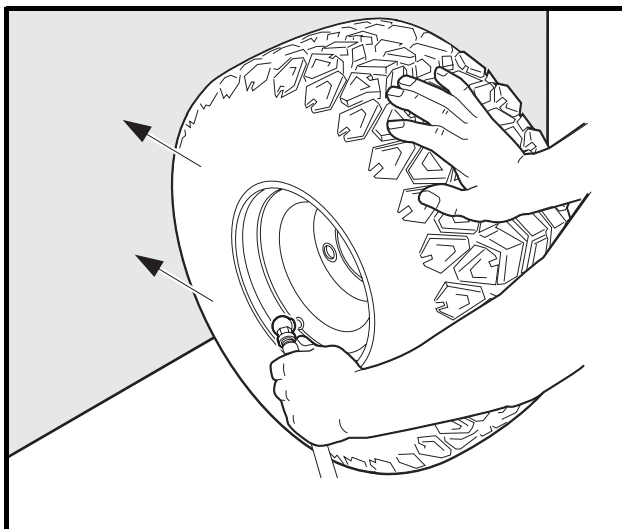

Figure 8-2 Inflate Tire
6. Place tire and wheel assembly against wall in upright position and push it against wall while inflating tire to 30-35 psi (2.07-2.42 Bars). The three-point contact (wall, floor, and hand) will help ensure that beads snap into place and form a proper seal as tire is inflated (**Figure 8-2, Page 8-3**). **See following WARNING.**